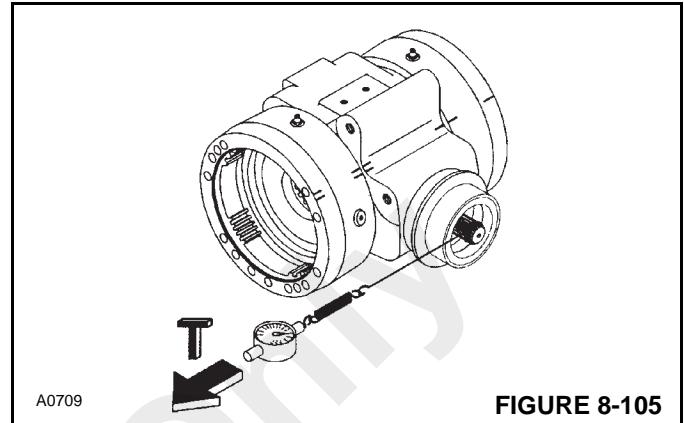

FIGURE 8-105
13. Measure the total pre-loading (T) of the bearing (pinion-bevel gear system), using a dynamometer whose cord is wound on the pinion spline end (Figure 8-105).